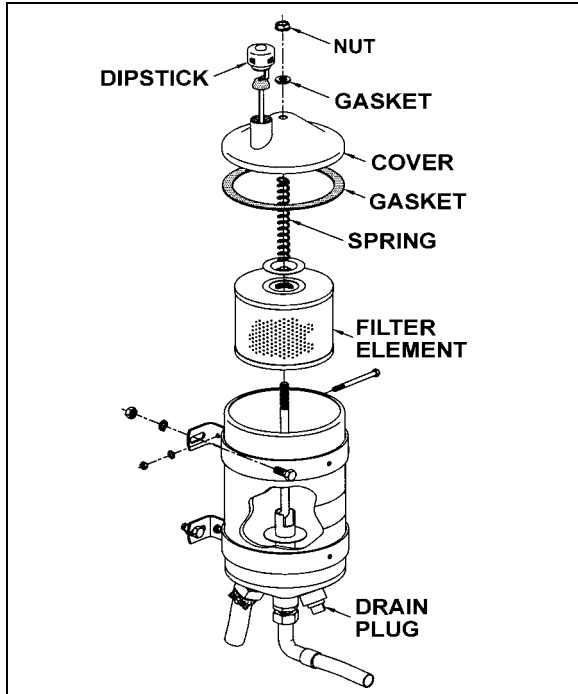

FIGURE 18: POWER STEERING FLUID RESERVOIR14018A
3. Insert dipstick in reservoir. Remove it again to check fluid level (Fig. 18).